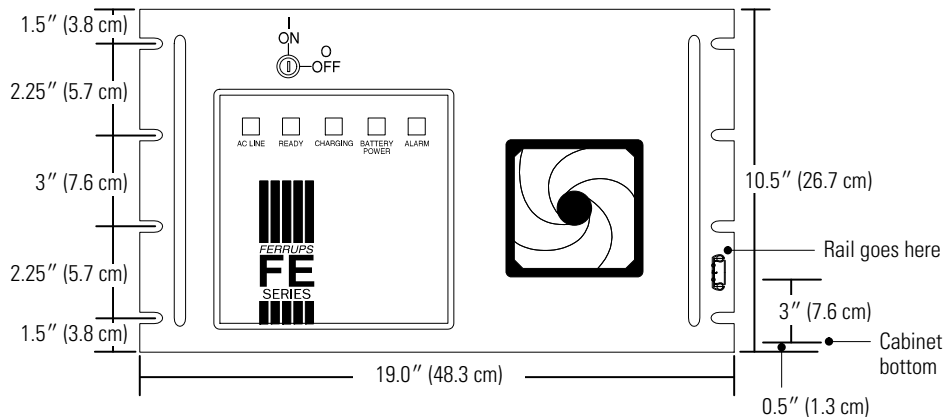
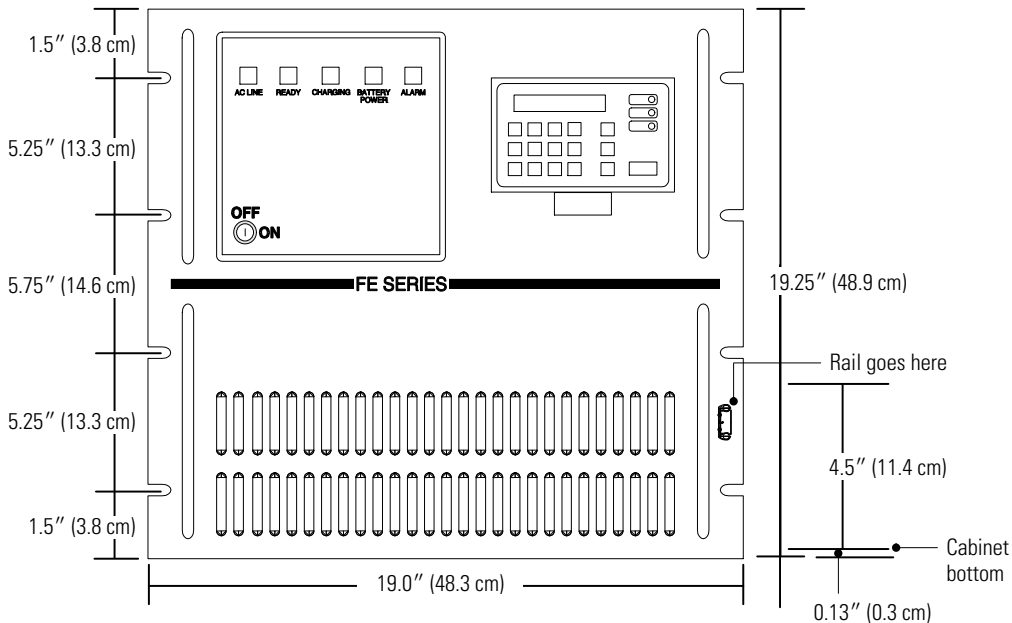

Figure 27. 850 VA–3.1 kVA UPS Front Panel Bolt Slot Measurements
Figure 28. 4.3/7 kVA UPS Front Panel Bolt Slot Measurements
4. To ensure the front panel bolts align with the holes in the rack, use the slot measurements in Figure 27 or Figure 28 to position the outer rails before you attach them to the rack.